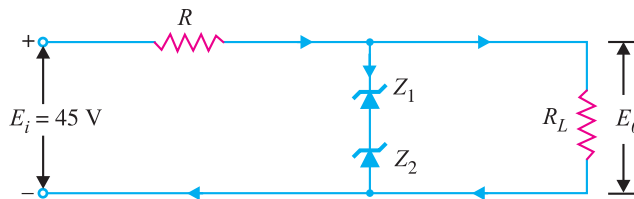

Fig. 6.66
**Example 6.30.** The circuit of Fig. 6.66 uses two zener diodes, each rated at 15 V, 200 mA. If the circuit is connected to a 45-volt unregulated supply, determine :
**Solution.** When the desired regulated output voltage is higher than the rated voltage of the zener, two or more zeners are connected in series as shown in Fig. 6.66. However, in such circuits, care must be taken to select those zeners that have the same current rating.